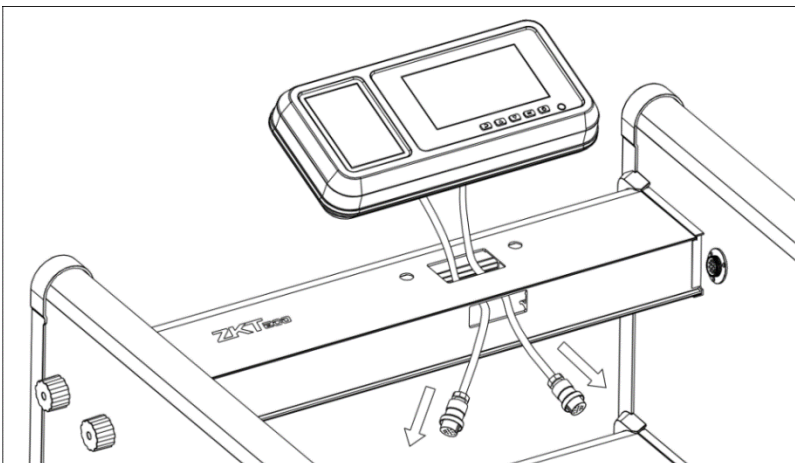

Figure 3-7
Step 6: Pass the host signal line through the opening of the front beam, as shown in the figure 3-7 below.